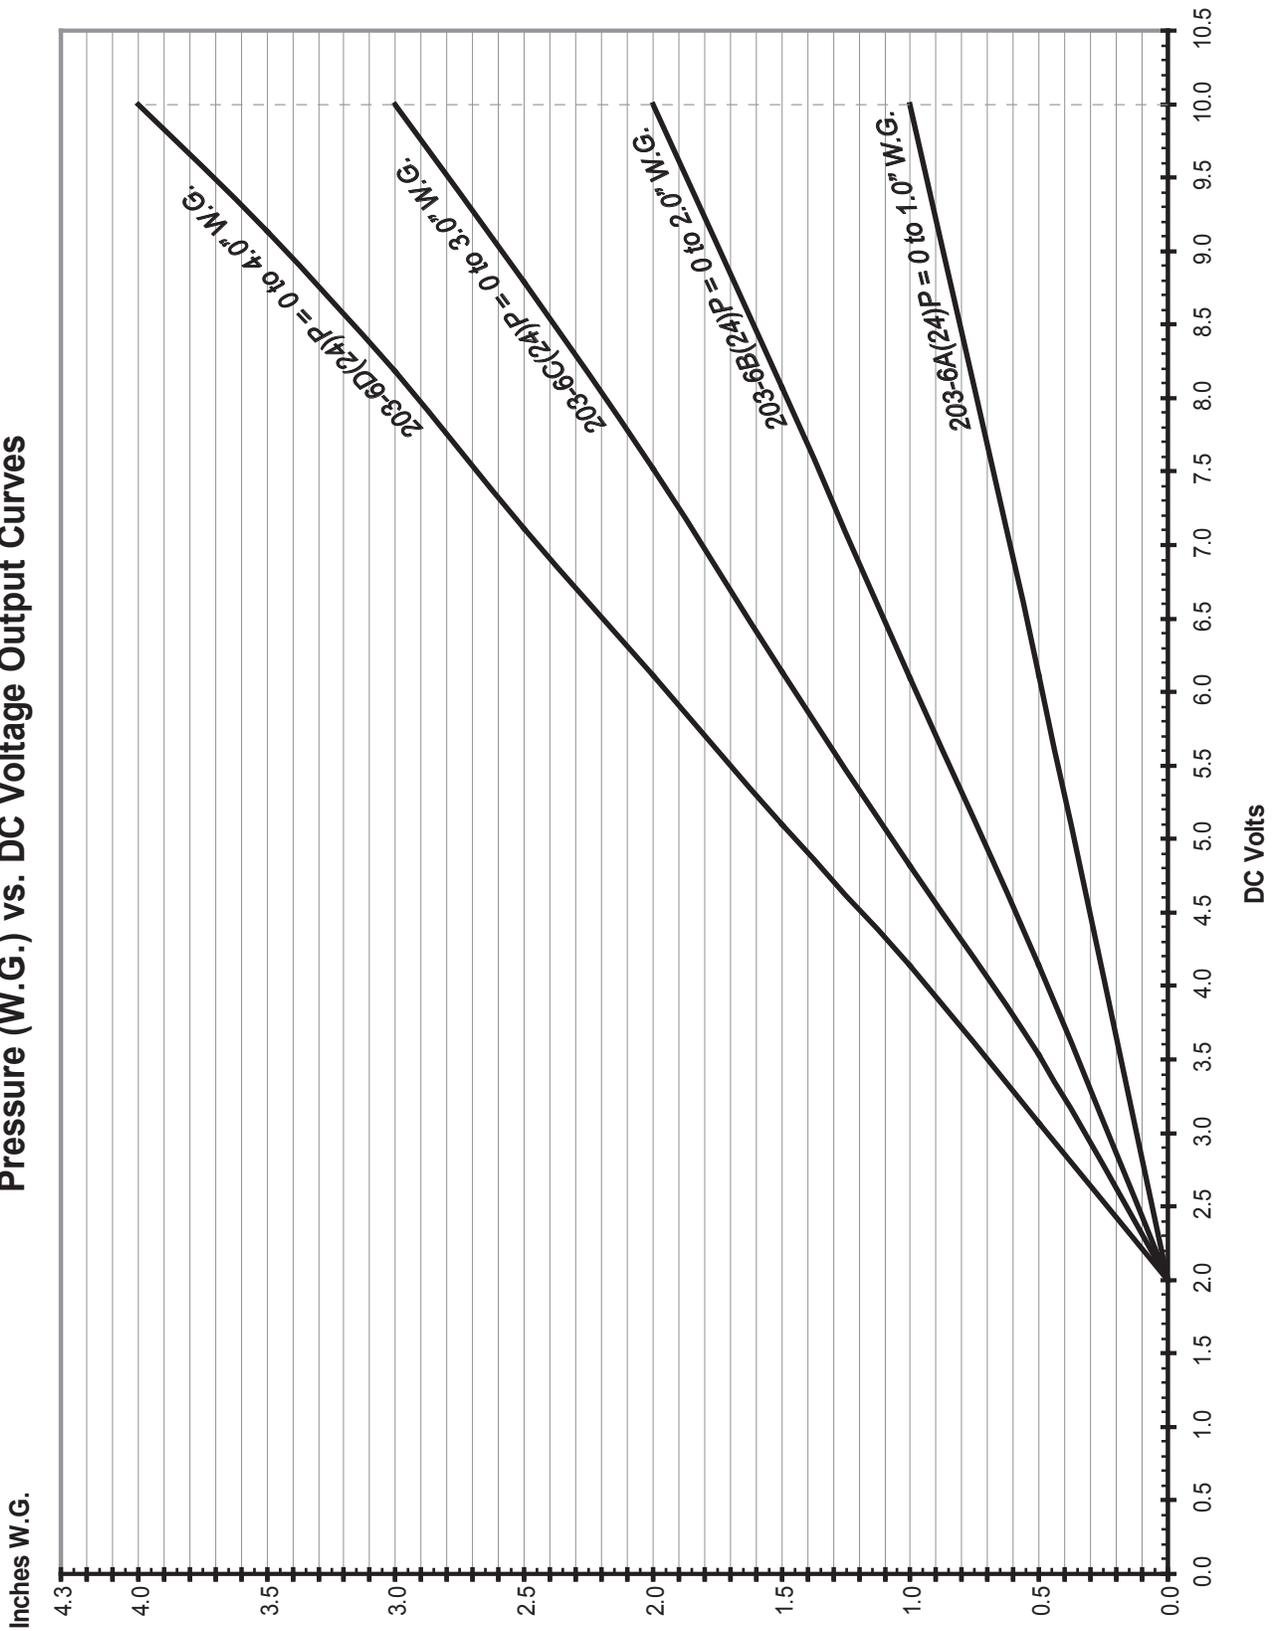

Figure 5 - 203-6 Series Output Response Curves
6. Verify operational pressure (H₂O) is not below limits as per the graph of Pressure vs. DC Output Voltage as shown in Figure 5.